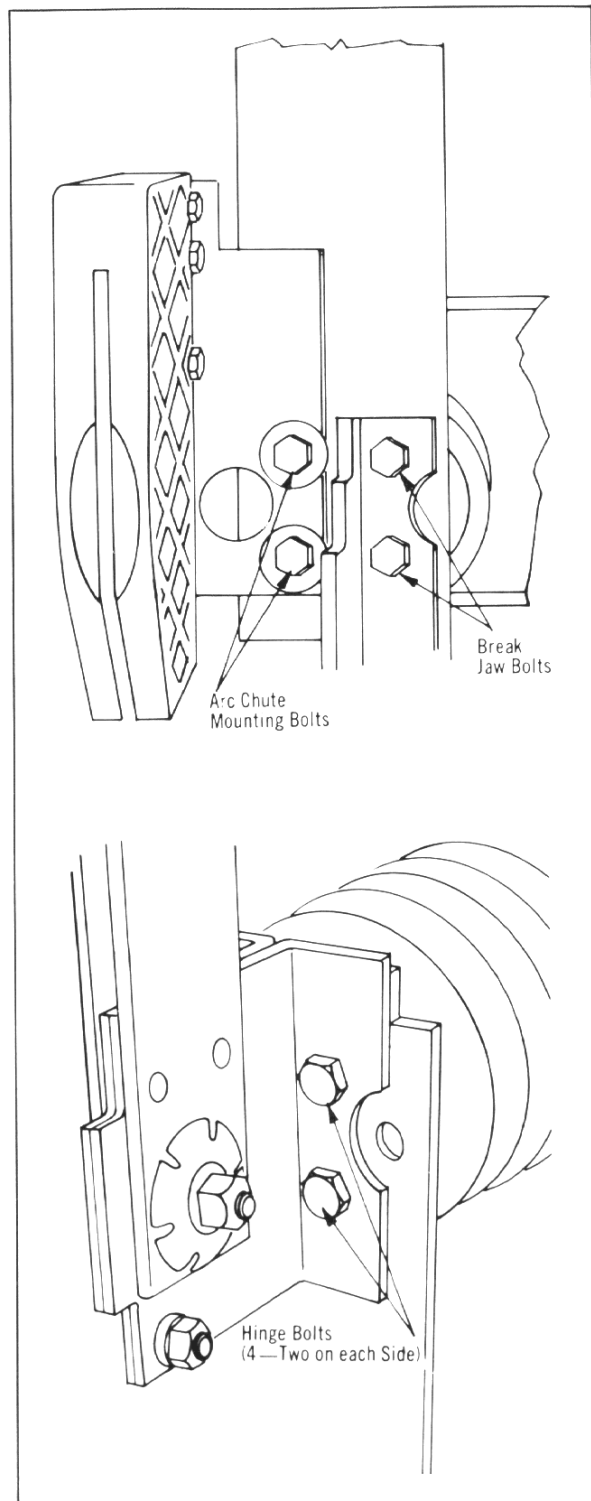

Fig. 18 Main Blade and Arc Chute Alignment
5.2.3 Main Blade Alignment (Fig. 18)
5.2.4 Arc Chute Alignment (Fig. 18)